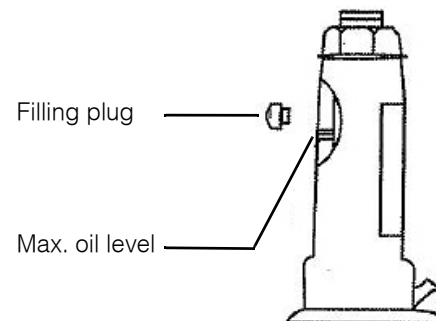

Fig. 6: Refill of the hydraulic oil
Step 4: Fill high-quality hydraulic oil into the cylinder up to the lower edge of the filling opening (Fig. 6).